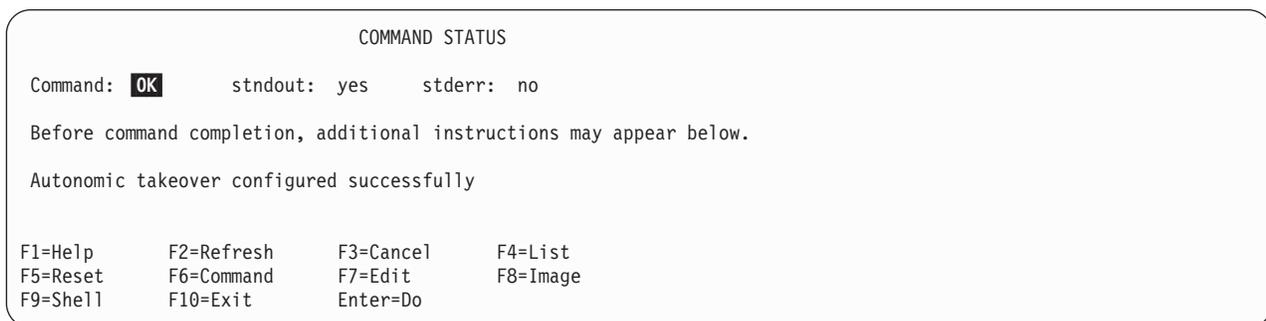

Figure 29. Processing AOTM To a Remote Cluster
8. Press **Enter**. You see Figure 29.